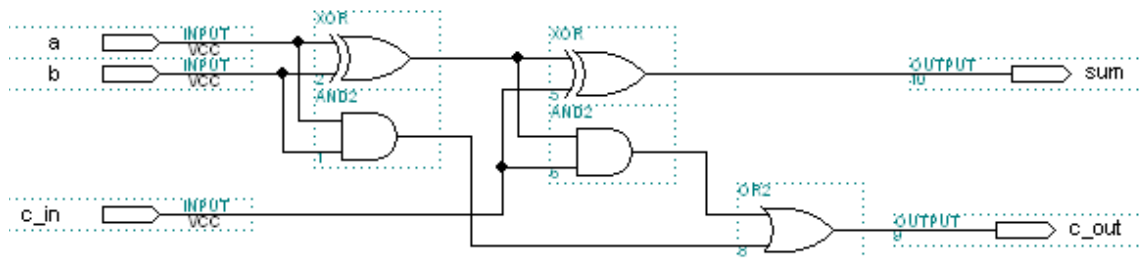

Figure 1 Full Adder
1. The logic diagram for a full adder is shown in Figure 1. Use this diagram to write a VHDL file called **full_adder.vhd**. *Do not use the graphic editor.*